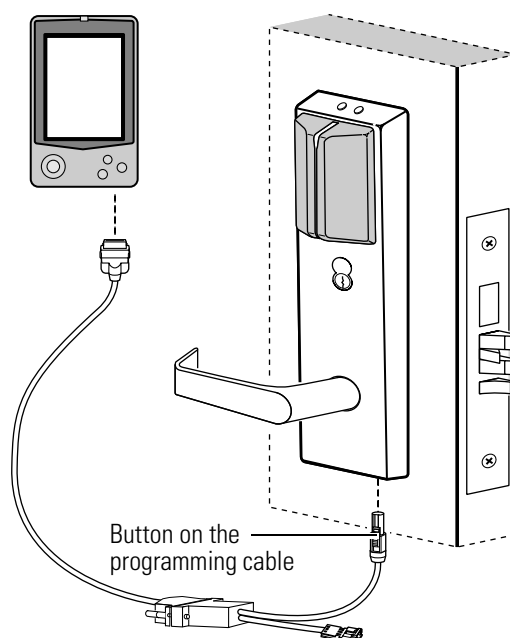

Figure 11.16 Disconnecting the programming cable from the lock
10. To disconnect the PDA from the lock, press the button on the programming cable connector and unplug the programming cable from the lock's communication port. See Figure 11.16.